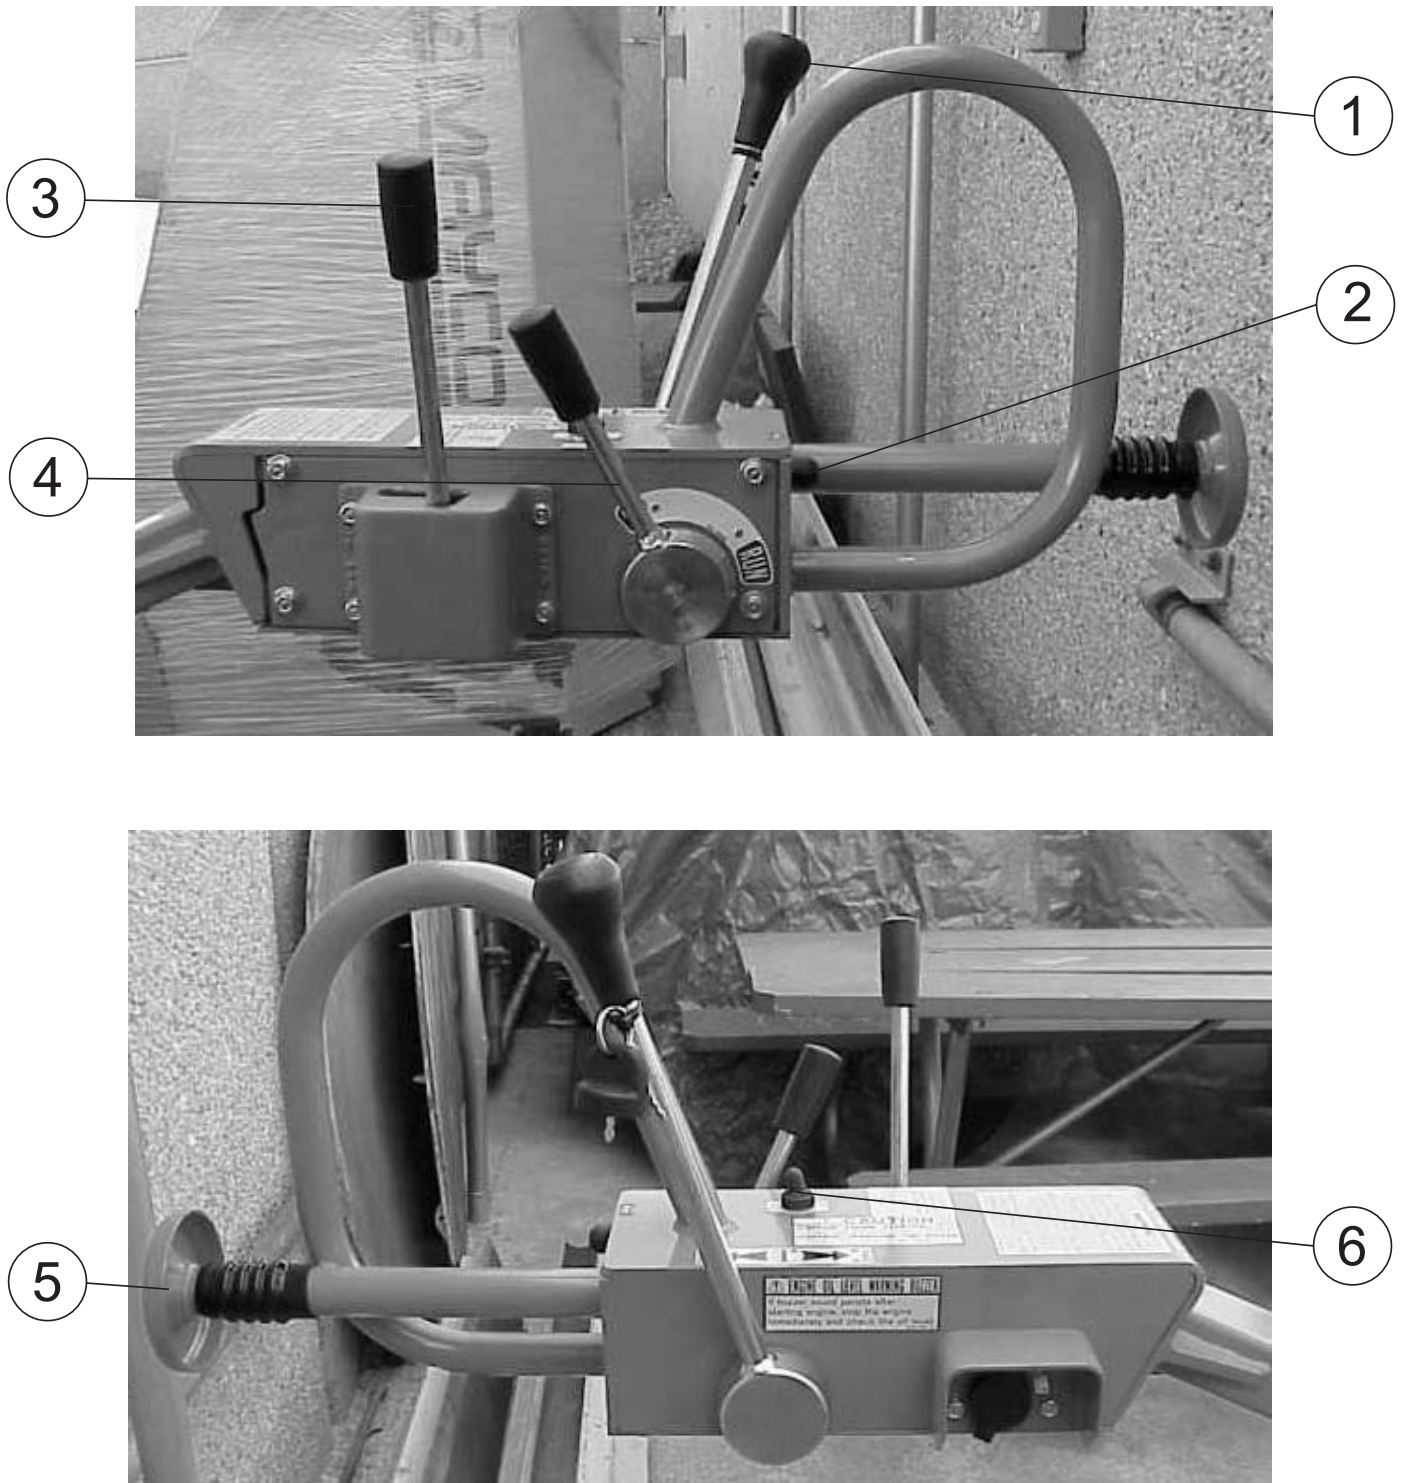

Figure 3. Handle Bar/Lever Components
Figure 3 illustrates the location of the major lever components on the handle bar of the machine. Each component is described below:
1. Check travel, vibration, and throttle levers to make sure they are functioning properly (Figure 3).
The engine can be started by motor (electric) or manually (recoil). Refer to Figure 2 and Figure 3 for the location of controls and components.